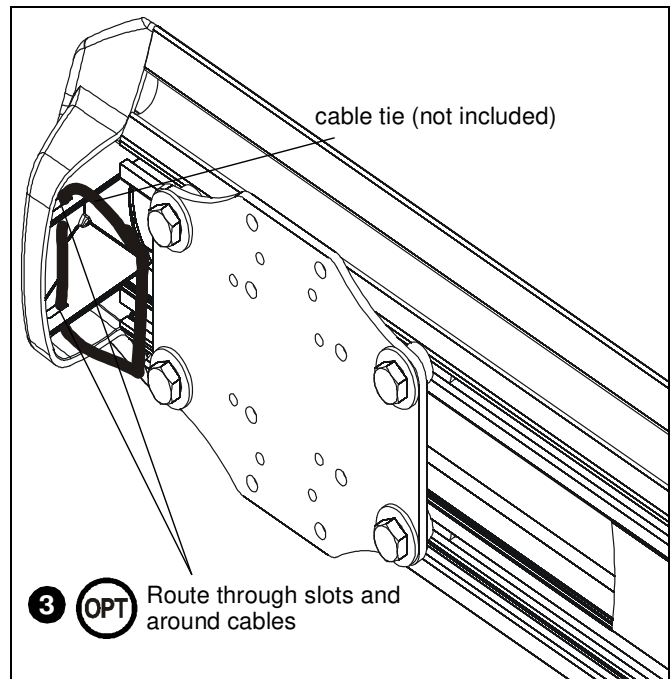

Figure 23
3. **(Optional)** Cables may be tied to inside of WM1XXS front cover using cable ties (not included). Route cables near front cover and wrap cable tie through slots on front cover and around cables. (See Figure 23)